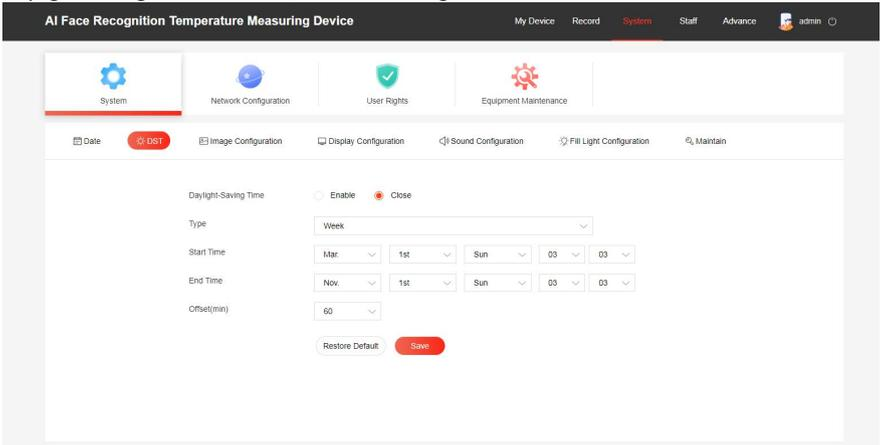

Figure 7-6
Step 1: After logging in to the web page, click "System → System → Dst" to enter the daylight saving time interface, as shown in Figure 7-6 below.